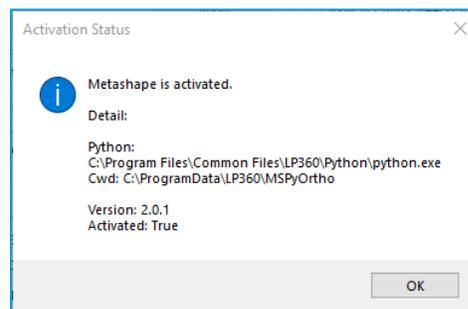

Figure 23 – Agisoft Ortho Mapping Activation Status - Activated
5. You should see an Activation Status message (Figure 23) indicating, “Metashape is activated”. Select OK.